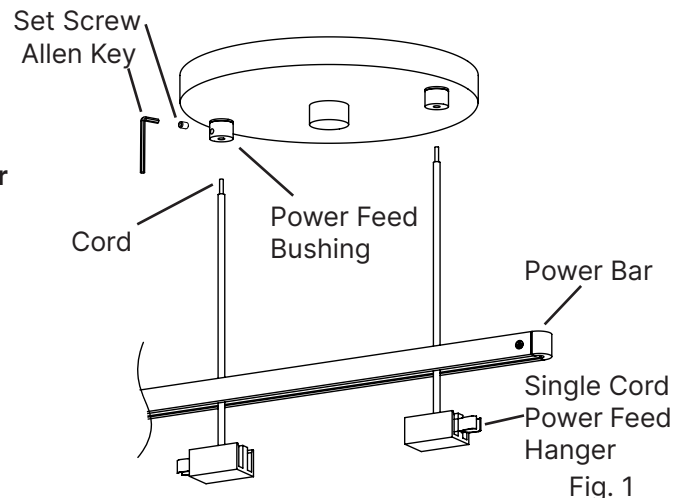

Fig. 1
1. Install the **Single Cord Power Feed Hanger** onto the **Power Bar**: pass the **Cord** through the Power Bar, tip the Hanger 45 degrees and insert the copper springs into the center of the Power Bar, then push the Hanger up while tipping it back up 45 degrees (Fig. 1).